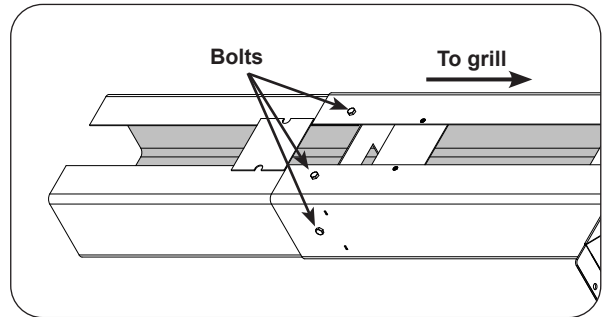

Fig. 32-1 Fasten extension to post
- From outside the joined post and extension, insert one of the $\frac{1}{4}$ " - 20 X $\frac{1}{2}$ " bolts (supplied) into each of the six (6) bolt holes and tighten each bolt using a $\frac{7}{16}$ " socket driver or wrench (see Fig. 32-1).